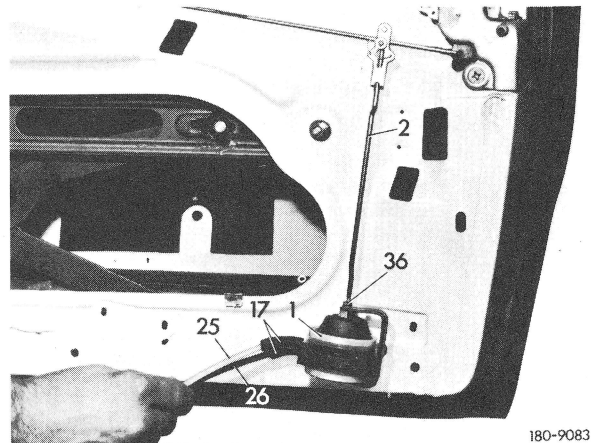

Fig. 2
- 5 Pull connections (17) with interlocking line „white“ (25) top and unlocking line „black“ (26) bottom from vacuum element (1) (Fig. 2).
- 6 Loosen counternut (36) on vacuum element (1) (Fig. 2) and unscrew control rod (2).
- 7 Screw control rod (2) into vacuum element (1) up to stop and secure with counternut (36) (Fig. 2).
- 8 Slip interlocking line „white“ (25) top and unlocking line „black“ (26) bottom with connections (17) on vacuum element (1) (Fig. 2).